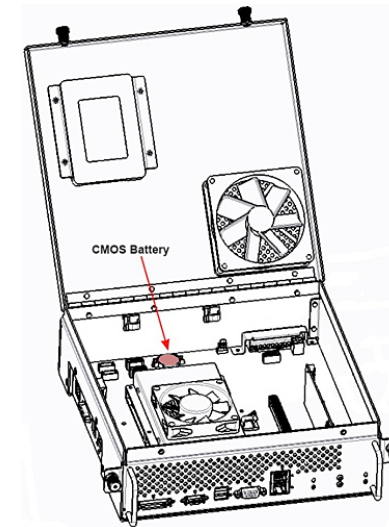

Figure 3-28 Host Module Battery Location
- 27.3 Remove battery BT1 (CR2032) from Host PCB by lifting one side of the coin battery and then pulling it out (see Figure 3-28).